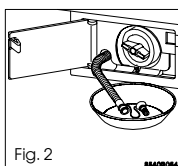

Fig. 2
2. Open the lid of the appliance and remove the polystyrene wedge which blocks the drum. Close the lid (fig.2).